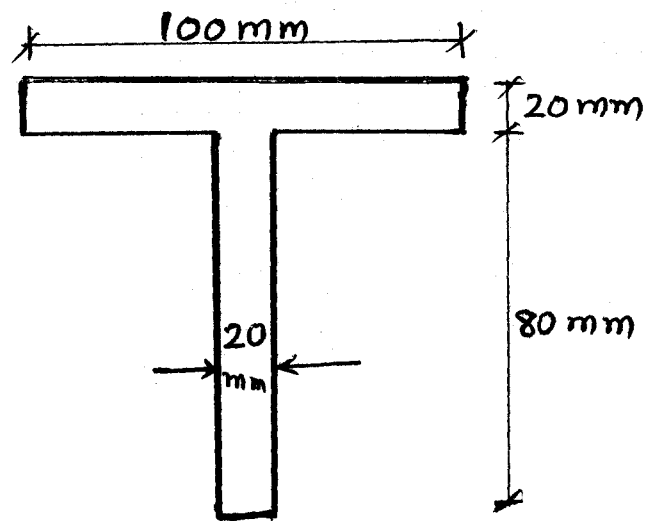

Fig. 3
- A cantilever T beam shown in Fig. 3. Determine value of bending stresses in the section and draw stress distribution diagram. Bending moment induced in section is 500 kN-m.